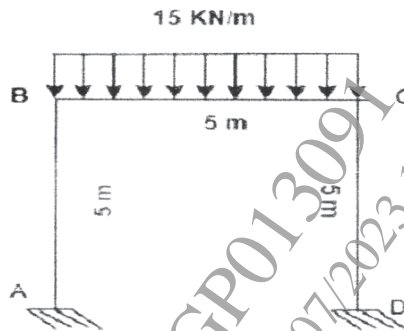

Figure 7
- b) Explain stiffness and flexibility and write elements of displacement matrix for the frame shown in figure 7. [6]